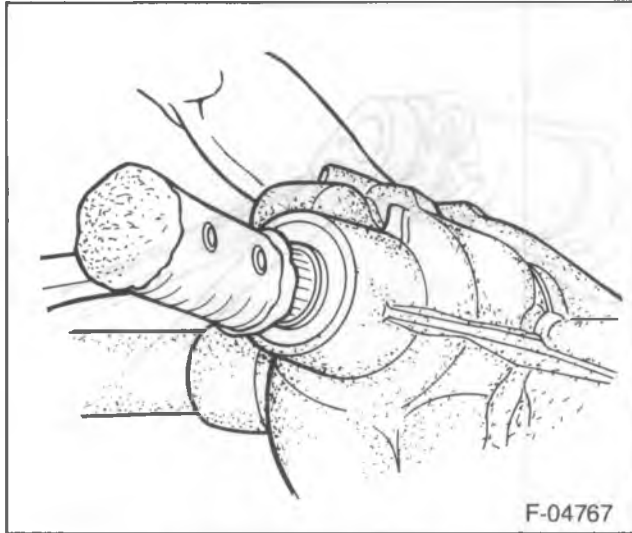
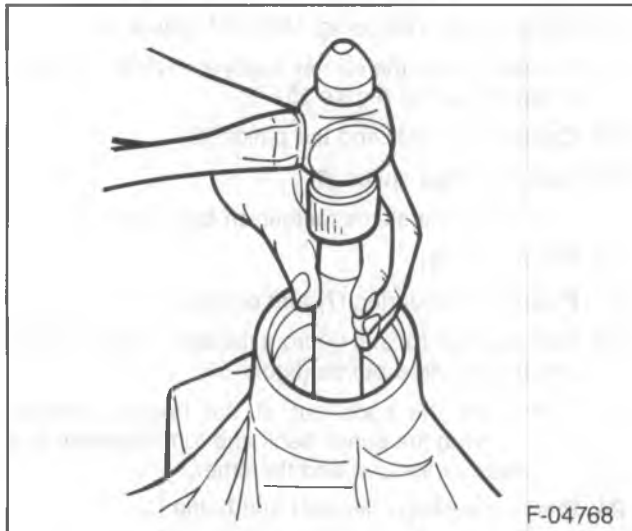
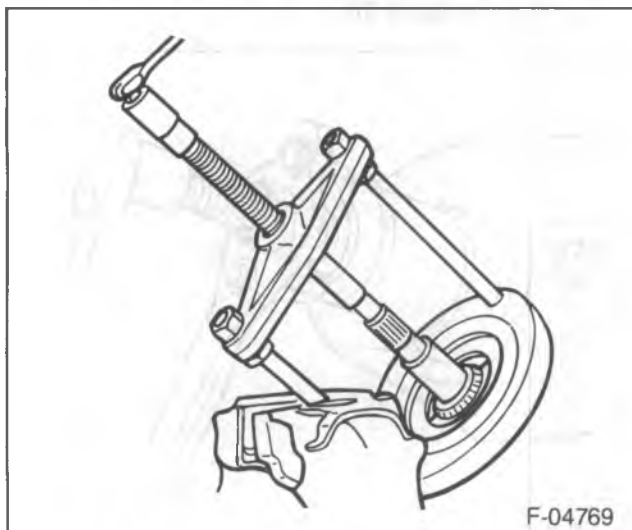

Figure 55—Removing the Pinion
Figure 56—Removing the Bearing Cups
Figure 57—Removing the Pinion Inner Bearing
18. Pinion (2) from the carrier using a rawhide hammer to tap the pinion (figure 55).
19. Carrier cover (14) and the pinion (2).
20. Pinion preload shims (6).
21. Pinion seal (9).
22. Pinion outer bearing (7) and oil slinger (8).
23. Bearing cups (3) and (7) from the axle housing using a hammer and a punch (figure 56).
24. Pinion adjusting shims (4) and baffle (5).
25. Pinion inner bearing (3) using J 29721 and J 29721-70 (figure 57).